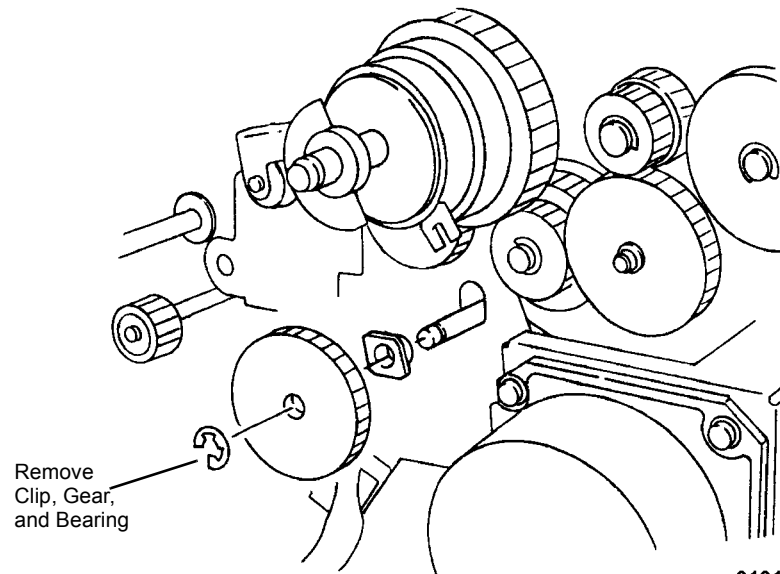

Figure 1 Removing Bearing
3. Remove the Bearing (Figure 1).